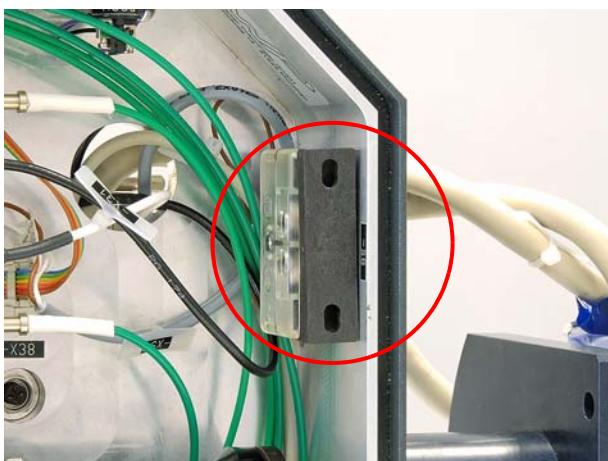

Figure 6.28 Interlock switch bridged
8. Bridge the interlock switch (Figure 6.28).